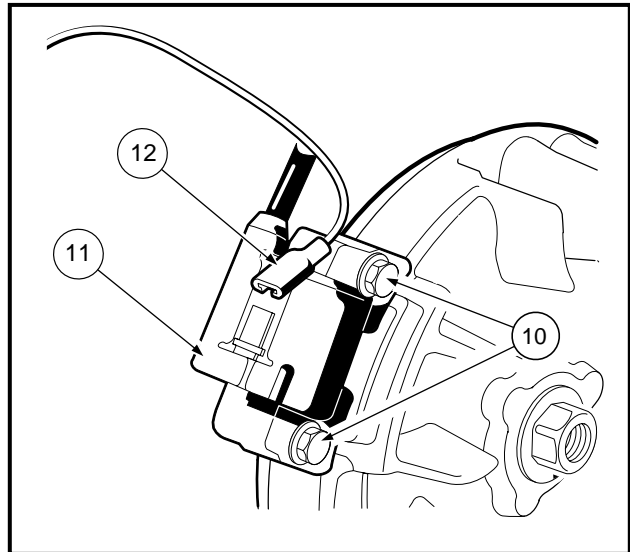

Figure 12-27 Remove Ignition Coil
9. Disconnect the 18 gauge black wire (12) from the spade terminal on the ignition coil (11) and remove the coil by removing two bolts (10) (**Figure 12-27, Page 12-26**).